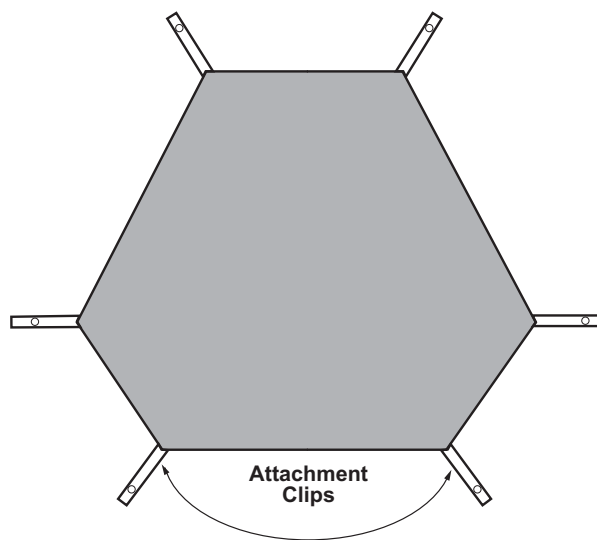

Figure 14-6. Mesh Drying Rack.
- **Tent body.** The tent body is made of urethane coated taffeta nylon weighing 3 ounces per yard. Inside the top of the tent is a mesh drying rack (see fig. 14-6) and around the bottom are several mesh pockets for commonly used items. The entrance has a mesh panel designed to keep bugs out.